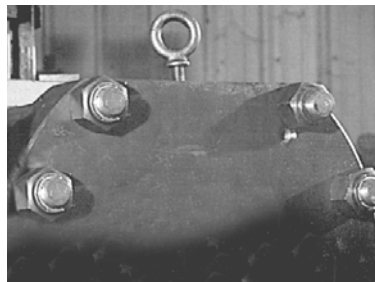

Figure 5-53. Typical Lift Eye Installation
- a. Install a $\frac{5}{8}$ "-UNC lifting eye on the cylinder head (see Figure 5-53). Attach lifting equipment to the lifting eye to support the cylinder head.